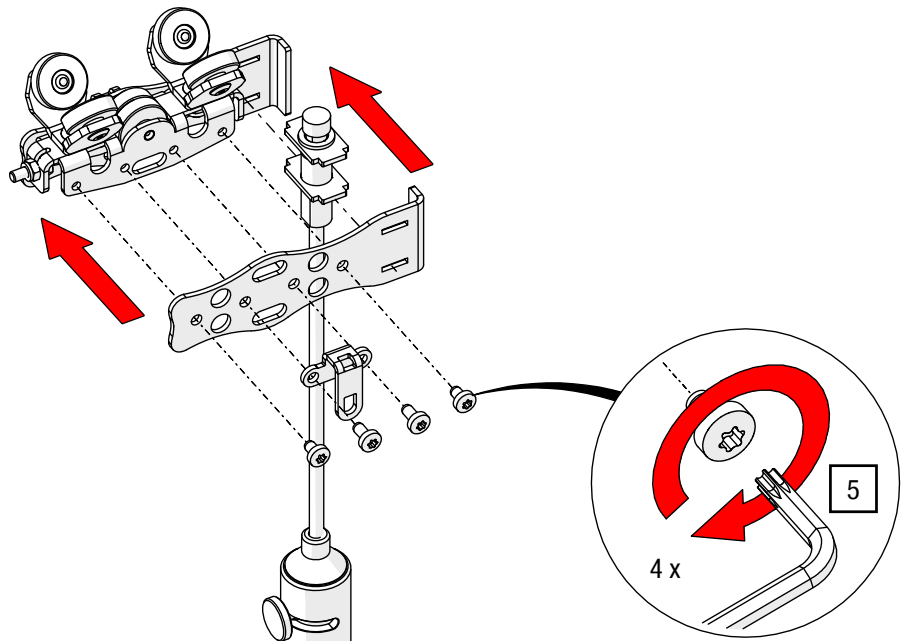

Fig. 66: Master runner with add-on brake – Mount opposite side plate with brake
5. Screw the master runner to the side plate, the brake unit and the lateral eyelet plate using a TORX®-key T20 until the plate is flush with the master runner (see Fig. 66).